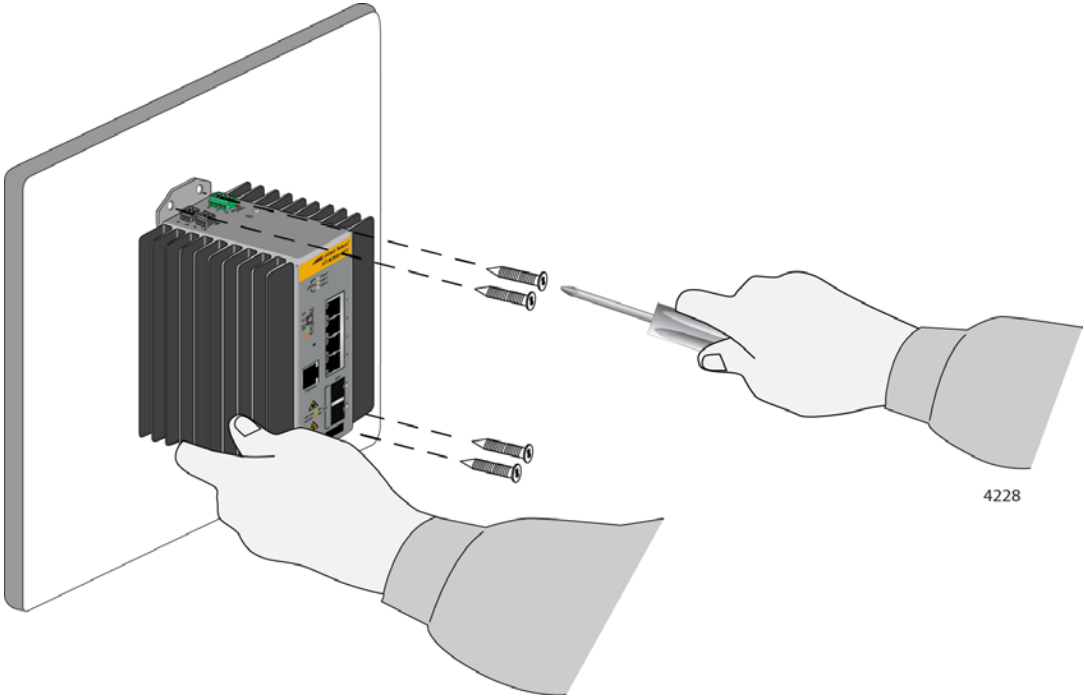

Figure 24. Installing the Switch on a Concrete Wall
7. Hold the switch at the selected wall location and secure it with four screws (not provided). Refer to Figure 24 on page 69.